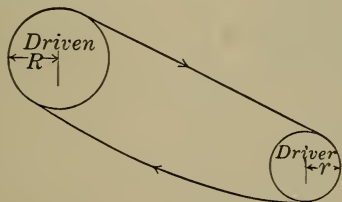
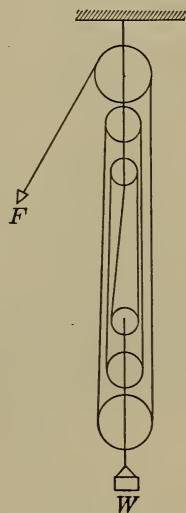

FIGURE 266.—TWO PULLEYS BELTED TOGETHER.
FIGURE 267.—ANOTHER TYPE OF PULLEY.
**286. Pulley.** — There are two types of pulleys. (Figure 266 and Figure 267.)
Figure 266 shows two pulleys belted together. The one which supplies the power is called the *driver*, and the other the *driven*.
Figure 267 shows the other type of pulley, often called a *block*. A block consists of one or more pulleys or *sheaves* fastened side by side, or one above the other, so that they are free to turn.